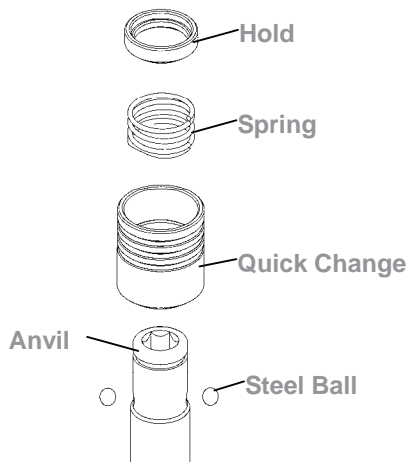

Fig. 172
8.1 Place the steel ball, the quick change holder, the spring, and the hold spacer orderly as Fig. 172 showed.